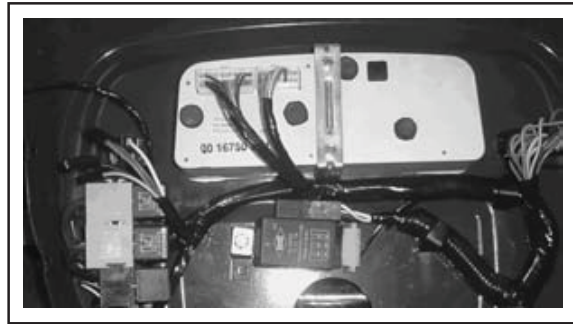

Fig.144
3. On the right hand side of the instrument panel remove the nut and bolt (Fig. 144) securing the flasher unit to the instrument panel.